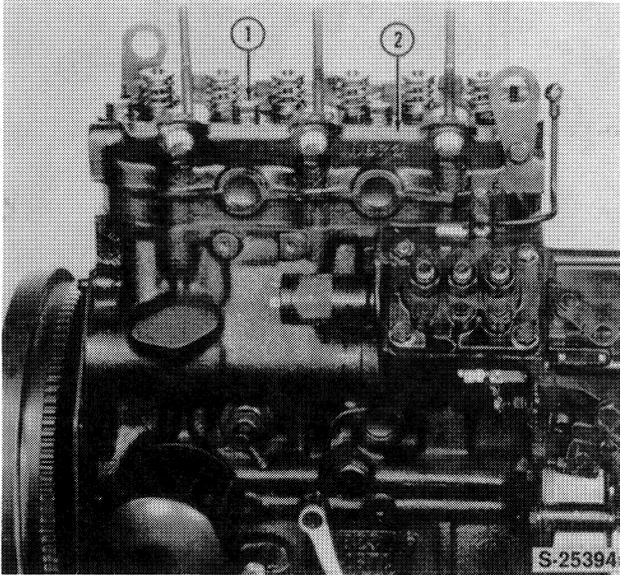

Figure 13
17. Loosen the head bolts (1) alternately a half turn at a time to prevent warping the head, Figure 13.